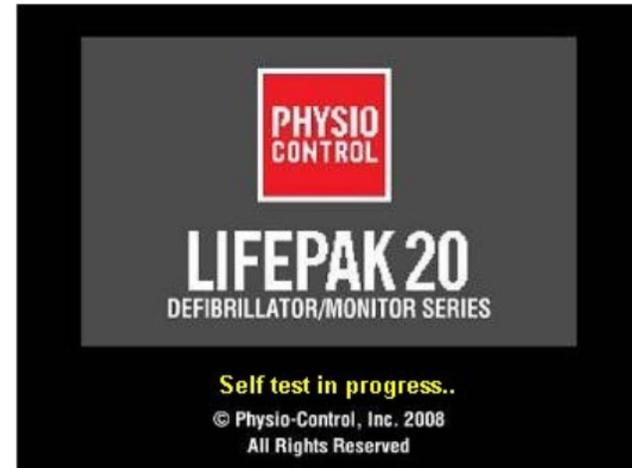

Figure 1.3: Power Self -Test
**Note:** The initial display indicates self-test in progress, as shown in Figure 1.3.